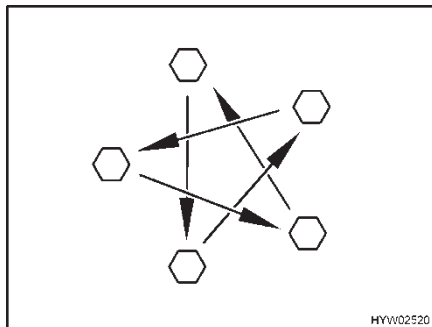

Fig. 196 Tighten the wheel nuts or wheel bolts cross-wise
- Check regularly that the wheel nuts or wheel bolts are firmly seated. Re-tighten the wheel nuts or wheel bolts of a changed wheel after 50 km (30 miles) (Fig. 196). See section 14.5.2 for tightening torque.
- When using new or newly painted wheel rims, re-tighten the wheel nuts or wheel bolts once again after approx. 1,000 to 5,000 km (600 miles to 3,000 miles) (Fig. 196).
- ▷ Tighten the wheel nuts or wheel bolts cross-wise (Fig. 196).